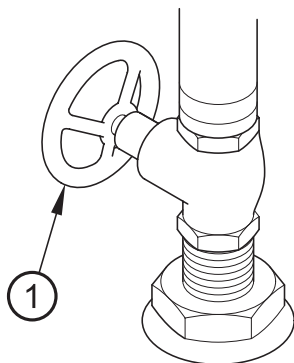

Figure 6
1. Ensure that the seacock is closed (figure 6 item 1 shows a typical example).